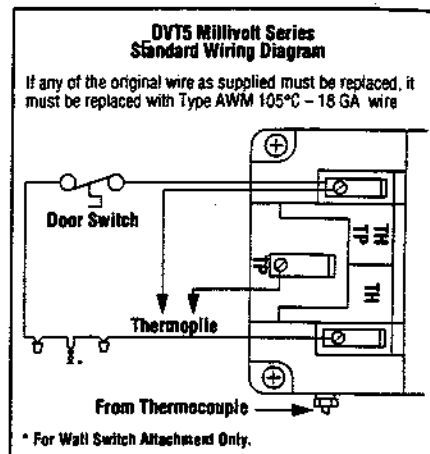

Figure 32
**Step 6. Installing the Optional Remote Wall Switch** – The standard \_DVT5 millivolt system comes from the factory wired as shown in Figure 32. Select a convenient location for the remote wall switch and connect the wiring to the appliance (Figure 33).